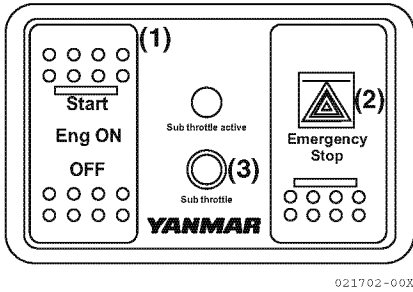

Figure 12
NOTICE: Under normal circumstances, use the ignition switch (Figure 12, (1)) to stop the engine. The engine shuts down suddenly when the upper half of the Emergency Stop switch (Figure 12, (2)) is pushed. Push the bottom half of the switch after the engine has shut down to return the switch to the center.
- Sub throttle Control (Figure 12, (3)).